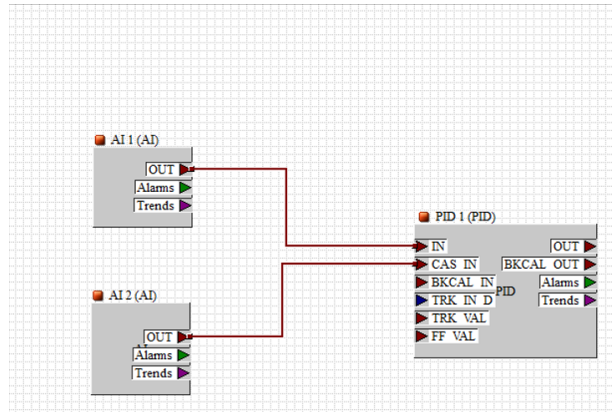

Figure 3.13 Function block configuration diagram
- (1) After ensuring that the NCS-TT106F transducer block is configured correctly and are in Auto mode, open the "Function Block Application" configuration interface in the NI software, drag the AI1, AI2, and PID function blocks into the configuration interface to connect AI1 and AI2 OUT to PID IN and CAS_IN respectively. As shown in Figure 3.13 below.